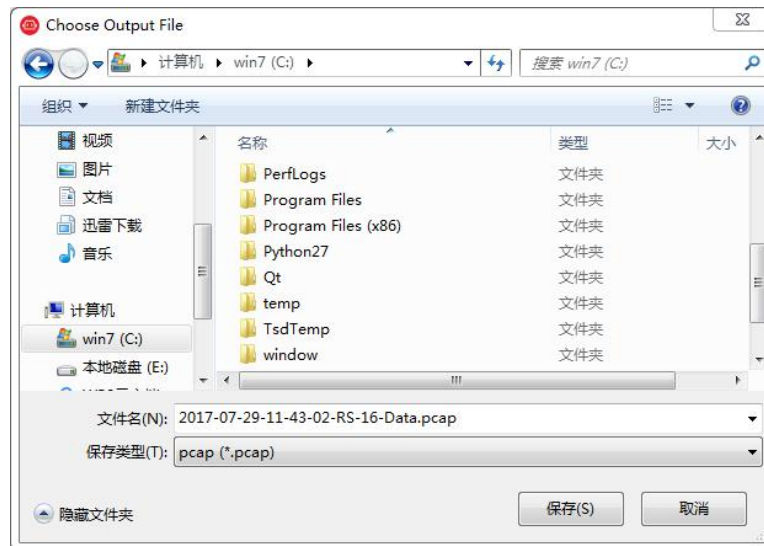

Figure C-6 RSView Record Saving Dialog
2. In the “Choose Output File” dialog that pops up, set the save path and file name, and then click the **Save (S)** button (Figure C-6). RSView will start to write the packet file into the target pcap file. (Note: RS-Bpearl will generate huge volume of data. As the recording time becomes longer, the target pcap file will become larger. Therefore, it is better to save the recorded file to the HDD or SSD instead of a slow subsystem such as a USB drive or network drive.)